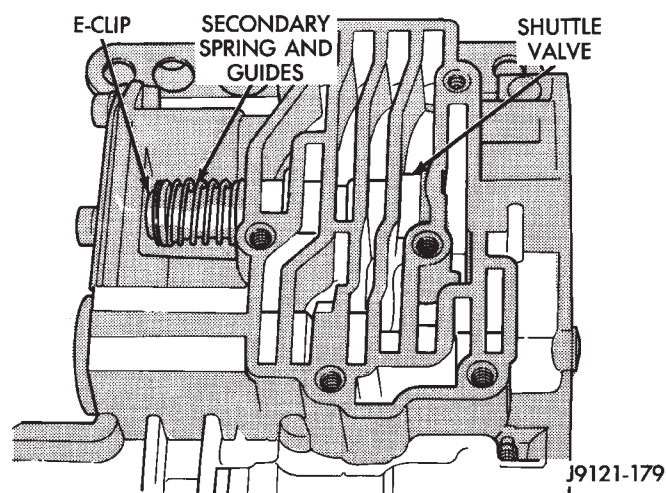

Fig. 111 Shuttle Valve E-Clip And Secondary Spring Location
(17) Remove shuttle valve end plate (Fig. 111).
(18) Remove shuttle valve E-clip and remove secondary spring and spring guides from end of valve (Fig. 111).